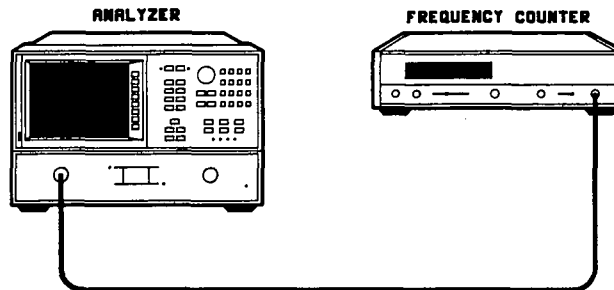

Figure 6. Source Pretune Correction Constants Setup.
1. Check A9 CC jumper position. Connect the equipment as shown in Figure 6 and then press **[PRESET] [SYSTEM] [SERVICE MENU] [TESTS] [ADJUSTMENT TESTS]**. When the CRT displays "Pretune Adj", press **[EXECUTE TEST]**. Press **[YES]** at the query to alter the correction constants.
1. Connect port 1 of the analyzer to the frequency counter input (see Figure 6). Press **[PRESET]** **[MENU]** **[CW FREQ]** **[1]** **[3]** **[.]** **[5]** **[G/n]**.